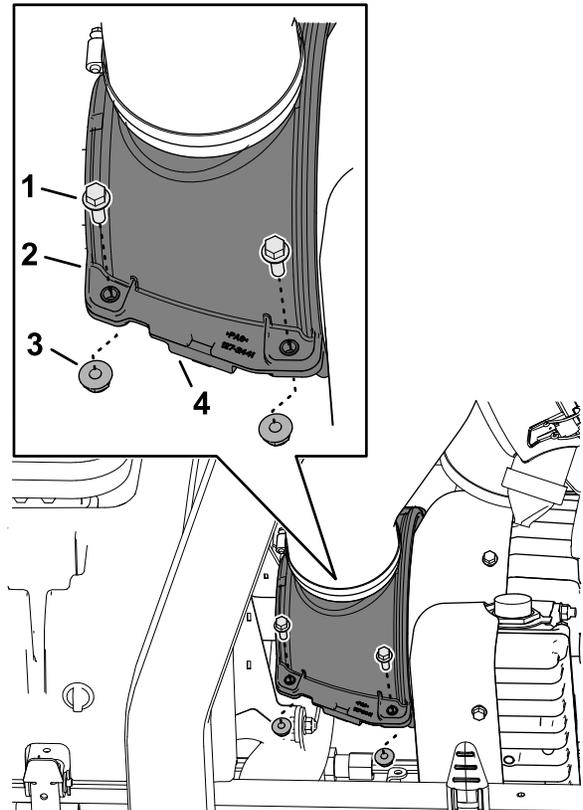

Figure 69
1. Remove the 4 flange-head capscrews and 4 flange locknuts that secure the upper and lower generator cooling-air shrouds (Figure 69).